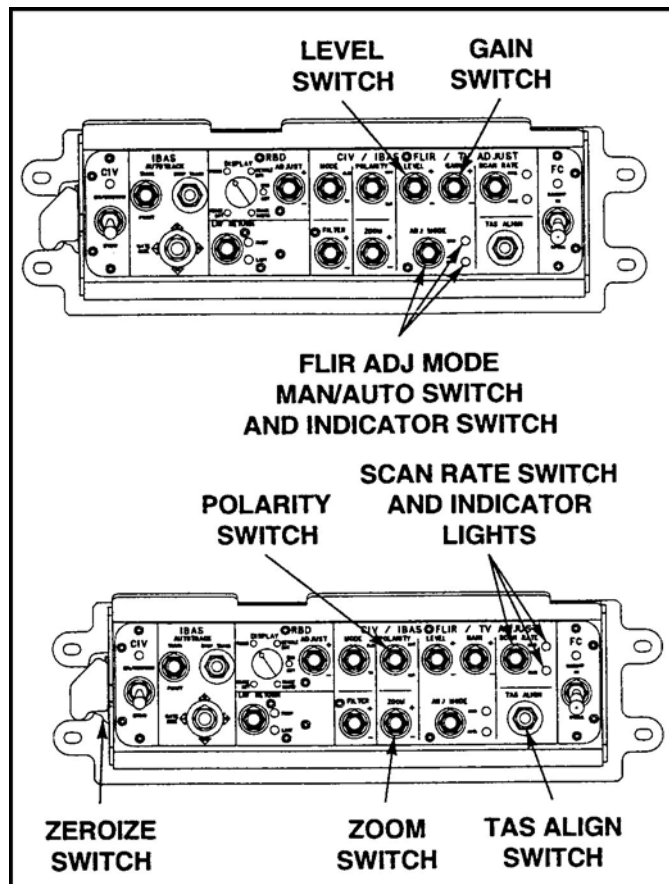

Figure 5. Commander's sight control panel.
2. Adjust the CIV using the commander's sight control panel (CSCP)(Figure 5).